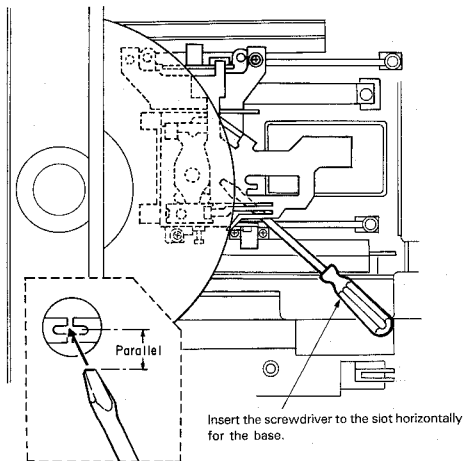

Fig. 2-1
6. Insert the flat bladed \ominus screwdriver (small) into the grating adjustment hole horizontally (Fig. 2-1). When the grating adjustment screw is turned, the tracking error waveform alternates between large and small. After the waveform amplitude becomes small, find the position where the waveform shows a smooth envelope. (Photo 1) (This status is called the "on-track" position.)